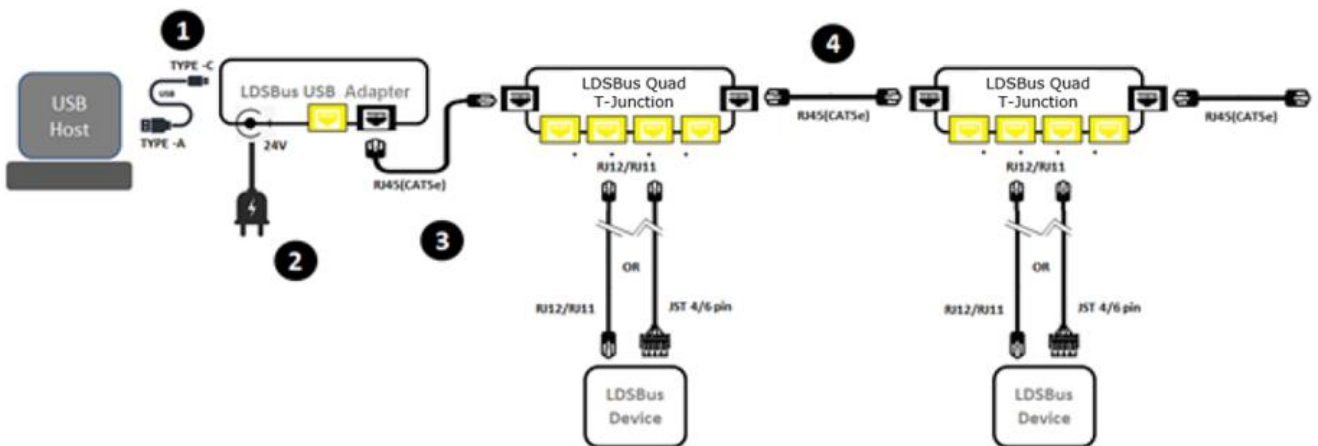

Figure 3 – LDSBus Creation
4. If there is more than one LDSBus Quad T-Junction device, daisy chain them together as shown in Figure 3 using RJ45 (CAT5e) cable(s). The termination on the last LDSBus device must be set to the ON state.